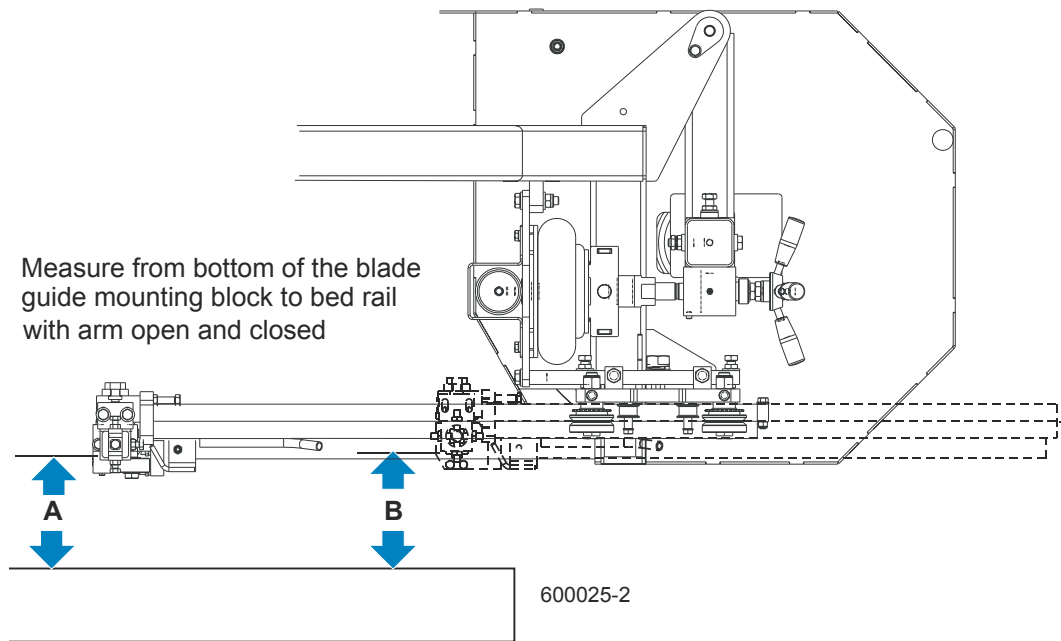

**FIG. 5-29**
**See Figure 5-29.** Loosen the horizontal adjustment bolt jam nuts. To tilt the arm in toward the blade, loosen the rear bolt and tighten the front bolt. To tilt the arm out away from the blade, loosen the front bolt and tighten the rear bolt. Retighten the jam nuts and recheck the blade guide arm horizontal tilt.